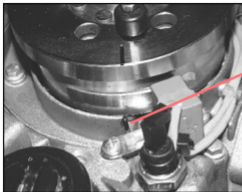

Fig. 1
central nut. To check the exact position of top dead centre you have to align the flywheel with the notch on the crankcase **(Fig. 1)**, and checking that the 4V reference line **(Fig. 2 - part. 1)** is aligned with the notch on the head **(Fig. 2 - part. 2)**.
of top dead centre you have to align the flywheel with the notch on the crankcase **(Fig. 1)**.
chain by one tooth more or one less on the crown gear. Be careful to check often to ensure that the crankshaft is not moving during the timing of the camshaft from the position indicated by the two reference marks aligned as shown in **Fig. 1**.
- Using a socket wrench with a T-shaped handle, and intervening on the nut found on the crankshaft and that fastens the variator unit, make all the engine have 4-5 complete revolutions and bring it back to the top dead centre, aligning the references shown in **Fig. 1** and check to ensure that the gearing chain
- After having checked to ensure that the crankshaft is at the top dead center (**Fig. 1**), check and if necessary correct the exhaust and intake valve for the